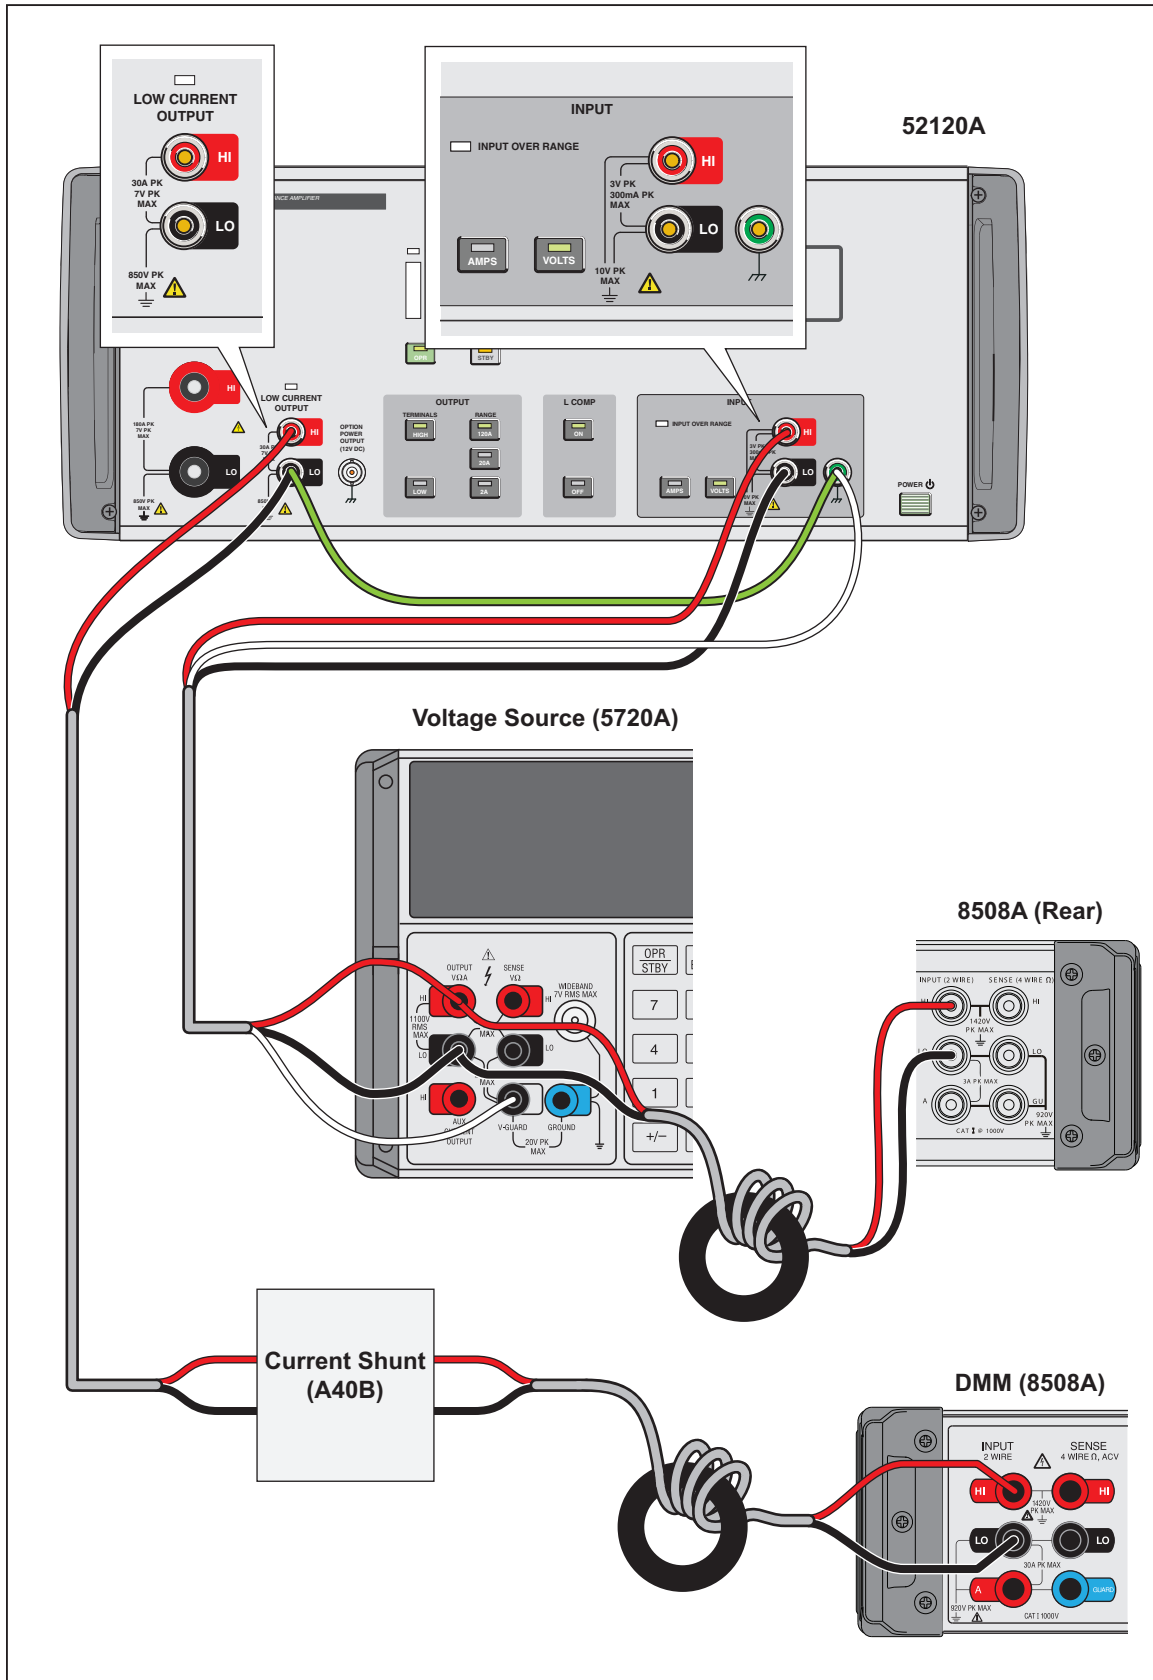

Figure 5-2. Calibration Adjustment Setup
3. Connect the equipment as shown in Figure 5-2.
- Connect the shunt applicable for the Product range as shown in Figure 5-2.
5. Connect the 2 A shunt between the Product output and the input of the DMM. See Figure 5-2.
36. Connect the 20 A shunt between the Product output and the input of the DMM. See Figure 5-2.